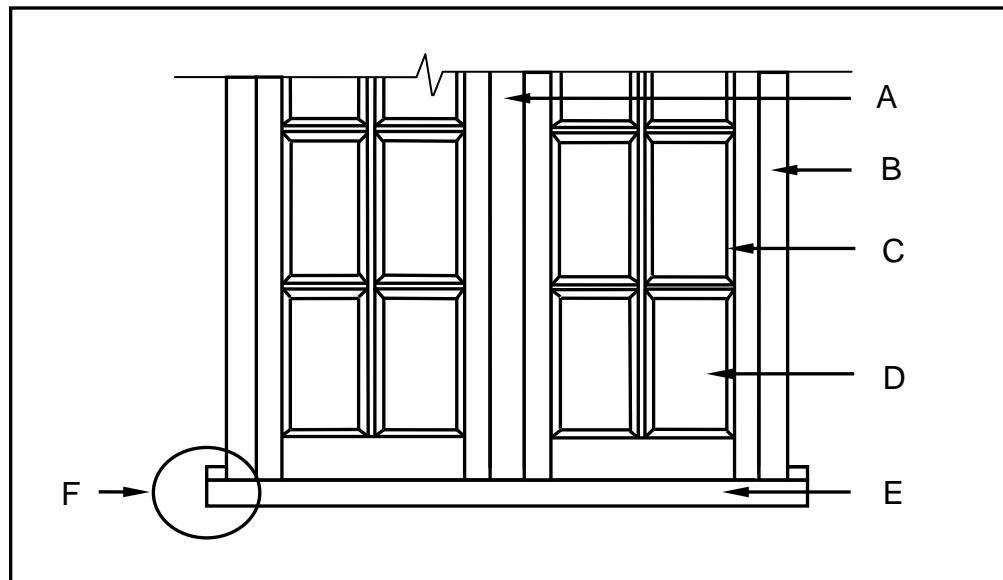

FIGURE 3.2
3.2 FIGURE 3.2 below is a sketch of part of an external elevation of a double casement window with fanlights. Study the sketch and answer the questions that follow.